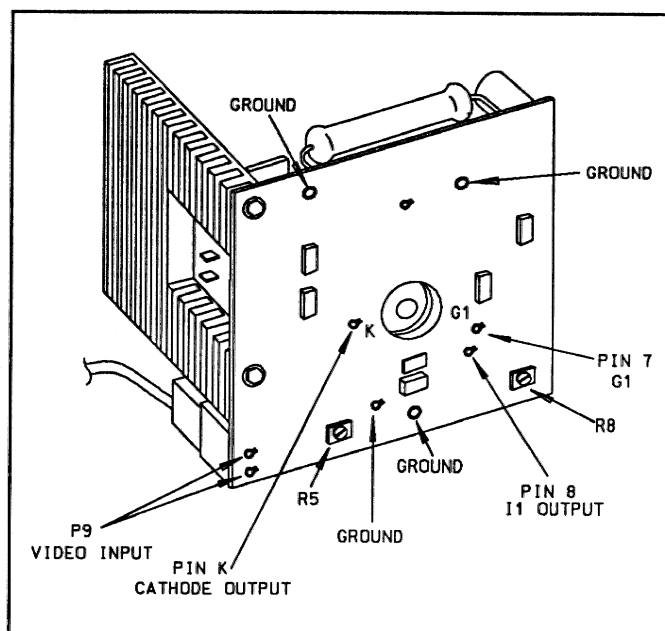

FIGURE 7-4. Video Output Module
**NOTE:** If the raster changes in brightness when the voltmeter is connected, insert a 20K resistor in series with the voltmeter. Keep the body of the resistor close to the cathode pin. See Figure 7-4.